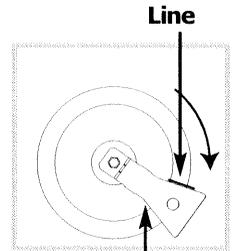

Fig. 3
- ⇨ Turn the spanner clockwise until the line appears on the other side (**fig. 3**). **Warning! Do not go beyond this limit as you are liable to cause damage.**